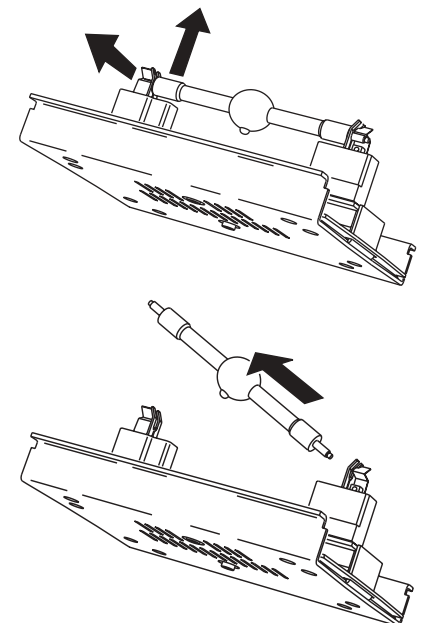

Figure 5: Lamp removal
- 3 See Figure 5. Pull the retention spring on the left-hand end of the lamp socket up and then swing the end of the lamp out. Pull the other end out of the socket.